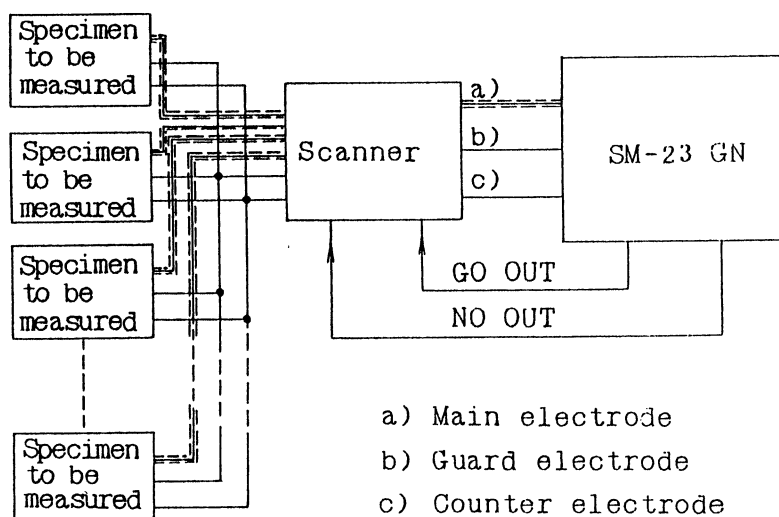

Fig. 7 Example of automatic insulation measurement
5) Rx terminals provided on the back should be connected as shown in Fig. 7 and used to connect this instrument to an automatic device, etc. Attention should be paid to induction by lead wire to be used for input.